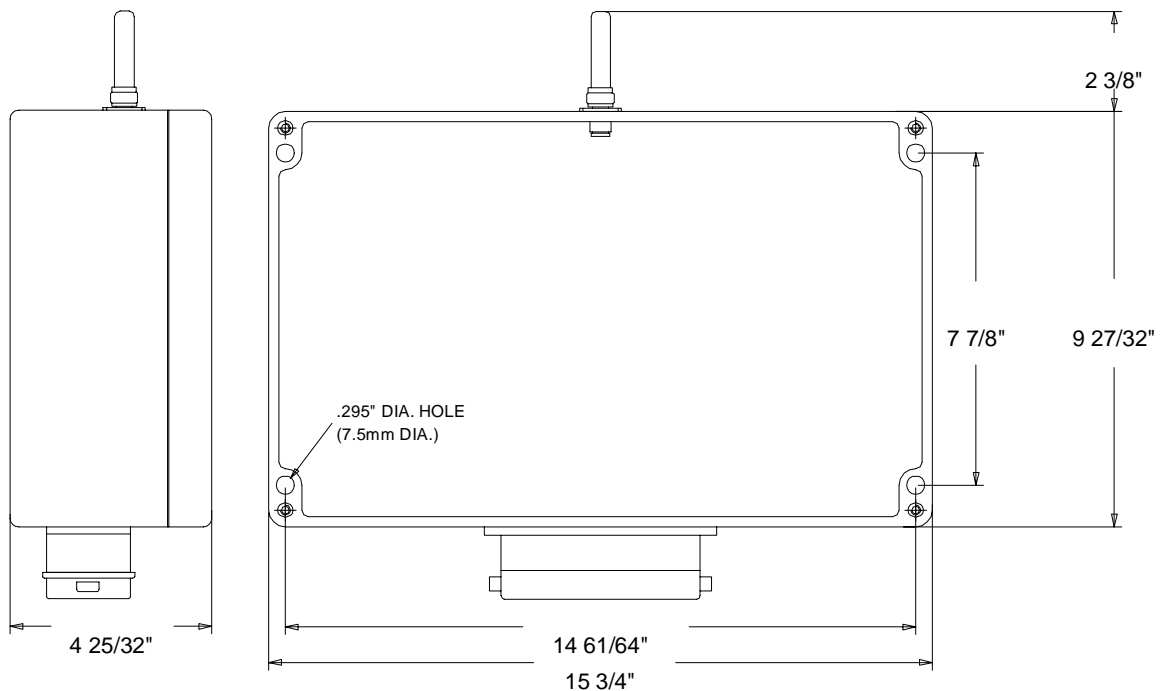

Figure 2.3: Receiver Dimensions
Refer to Figure 2.3: Receiver Dimensions for mounting the PulseStar•610 receiver.
4. Using the diameter and dimensions shown in Figure 2.3: Receiver Dimensions, drill holes into the mounting surface. The depth of the hole depends on the type of screw you are using to mount the receiver enclosure.